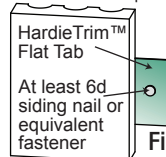

Figure 2
Step 2: For wood frame construction, attach the trim to the building with at least 6d siding nails fastened through the HardieTrim[™] Flat Tabs. ET&F or equivalent fasteners may be used to attach the HardieTrim[™] Flat Tabs to steel frame construction. (Figures 2 & 3)